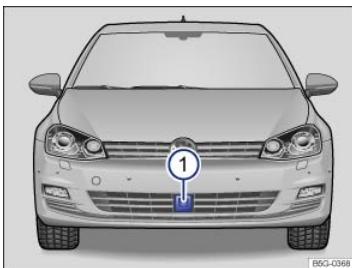

Fig. 158 In the front bumper: Radar sensor.
Vehicles equipped with ACC have a radar sensor below the front bumper to monitor the traffic situation → Fig. 158①. The sensor can detect moving vehicles up to about 130 yards (120 m) in front of your vehicle.